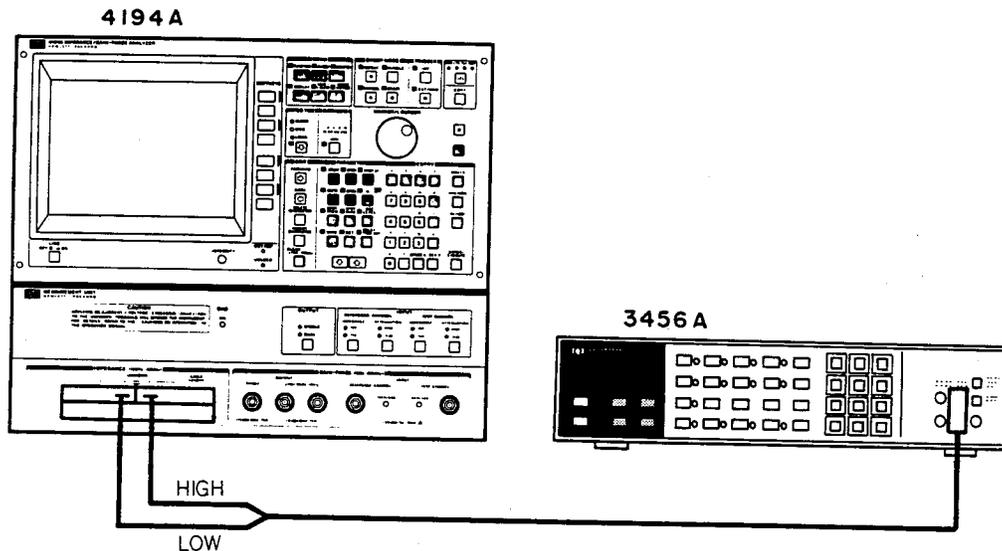

Figure 4-36. DC Bias Voltage Test Setup
1. Set up the equipment as shown in Figure 4-36.